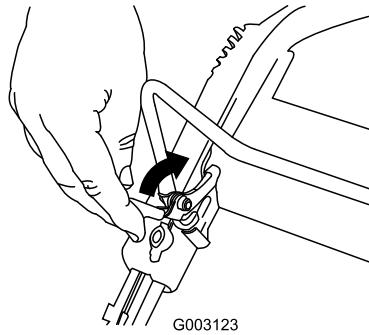

Figure 29
1. Pull the control bar lock back (Figure 29).